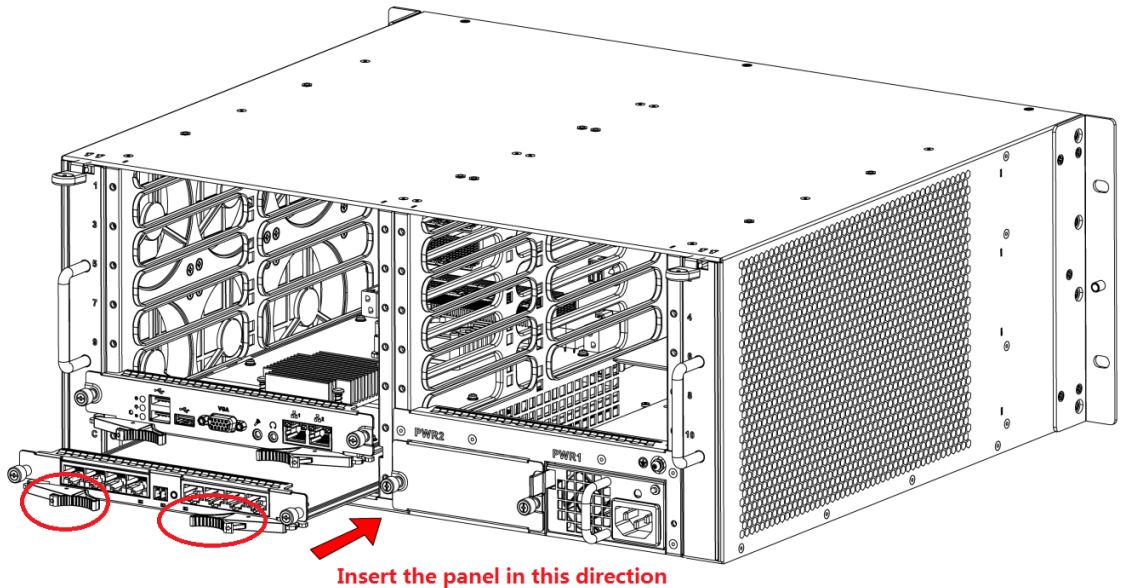

Figure 2-2
Step 2 Insert main control panel and control panel into slots of the case according to Figure 2-2, and tighten screws.